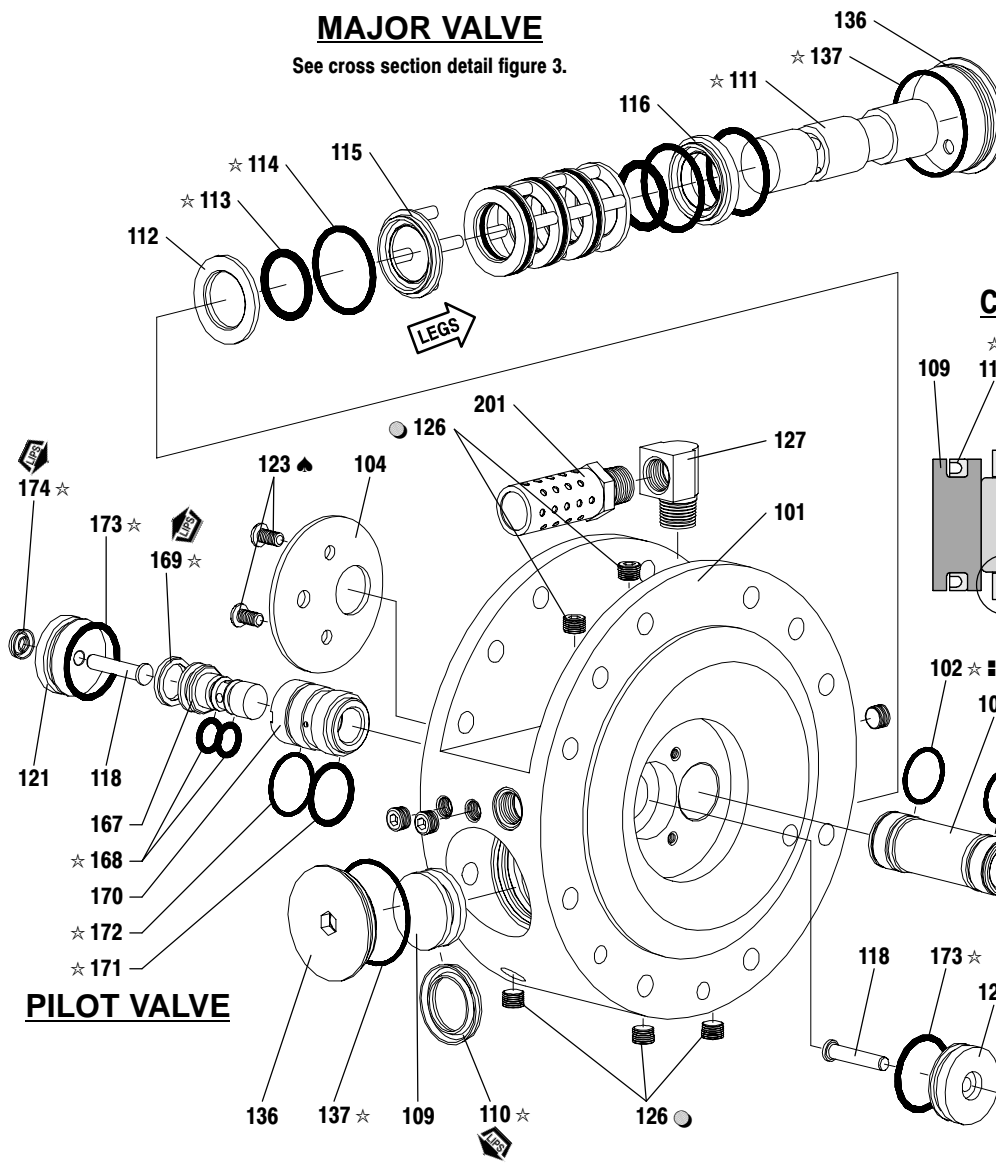

FIGURE 2
- NOTE: Both outer pump Fluid Sections must be removed to access the Pilot Section parts (see figure 2, page 7).
1. Remove two (123) screws and (104) plate from both sides of the (101) motor center body.
2. A light tap on (118) actuator pin should expose the opposite (121) plug and (167) pilot piston.
3. Remove (170) piston sleeve and inspect the inner bore for damage.